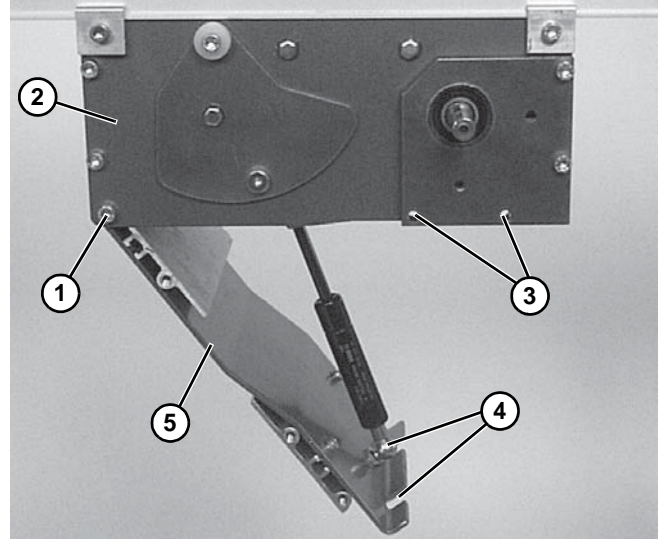

Figure 34
2. Loosen corner screws (**Figure 34, item 1**) on each side of the drive module (**Figure 34, item 2**).
3. Remove tension door screws (**Figure 34, item 3**) on each side of the drive module.
4. Using finger grip holes (**Figure 34, item 4**), open the tension door (**Figure 34, item 5**) to release conveyor belt tension.